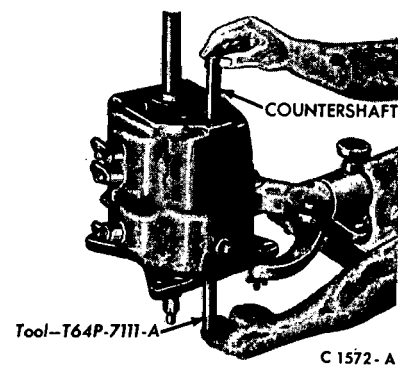

FIG. 22—Installing Countershaft
33. Place the transmission in a vertical position as shown in Fig. 22. Align the countershaft gear bore and thrust washers with the bore in the case. Install the countershaft.